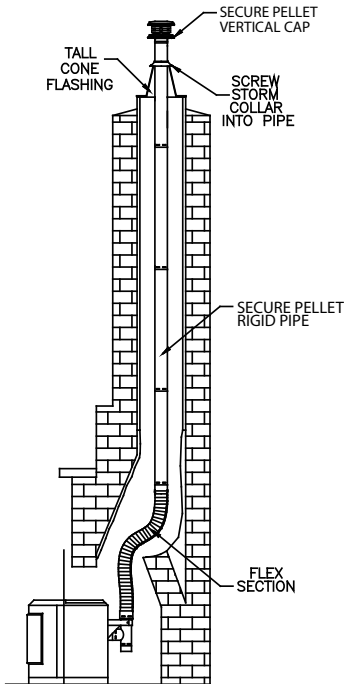
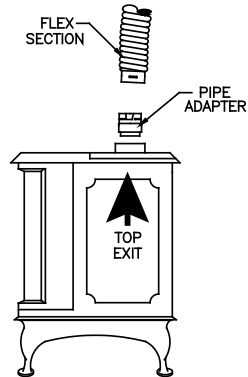

Figure 20
Figure 21
8. In making the connection at the appliance, configurations other than the one shown in (Figure 20) may be made. It may be necessary to contact the manufacturer of the unit to determine exactly what may or may not be done to make the correct connection. Some typical arrangements are shown in (Figures 21 and 22). An Appliance Adapter or Increaser Adapter may be needed, depending on the exit size of the stove or insert collar.